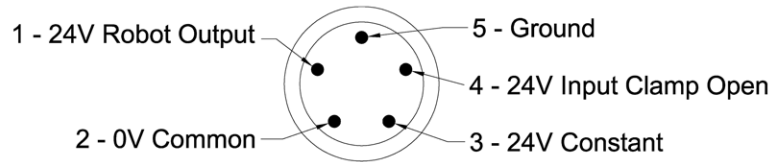

Fig. 2
Electical connection information for the nozzle cleaning station cordset is given in Fig. 2.
1. The cycle time for nozzle cleaning (reaming) is controlled by the robot program. With a 24VDC pulse on Line 1 (see Fig. 2), the reamer starts upward travel, the blade begins rotating, and the clamp secures the welding nozzle in place. With the 24VDC still applied, the reamer reaches the top of its stroke (cleaning position), and remains there as long as the 24VDC is “on”. When the 24VDC is turned “off”, the reamer will begin its downward travel, continuing to rotate with the clamp still closed. Upon reaching the bottom of its stroke (home position), the blade will stop rotating and the clamp will open.
2. Line 4 (see Fig. 2) is a “cycle status” line which informs the robot of the clamp status. When the clamp is open, the robot will see a 24VDC signal on this line. As the clamp is closed (during the cleaning cycle), Line 4 will read 0VDC. The robot program should not allow any robot movements when Line 4 is a 0VDC.